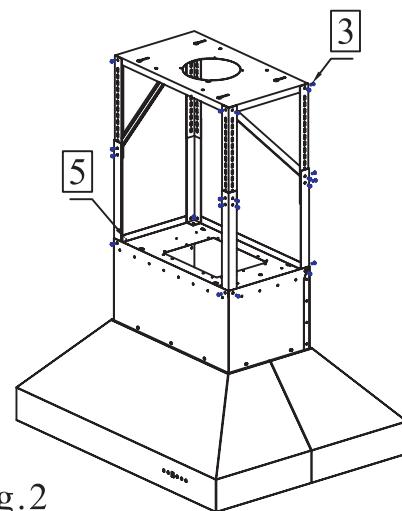

fig.2
**Step two:** Measure how far off the range you would like to mount the hood. Adjust the brackets provided to the desired height. Connect the top mounting plate, mounting legs, and the main hood using the screws provided. fig 2.